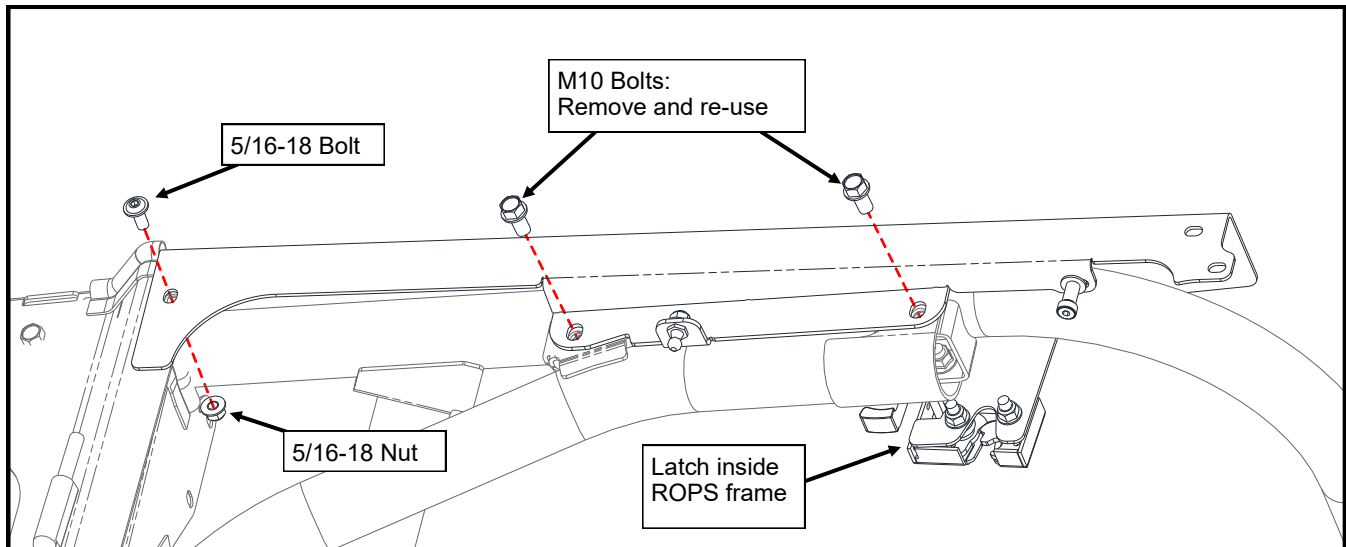

Figure 8.1: Rear Side Headers (Driver's side shown)
- 8.1 For both sides, remove and retain the two M10 bolts at the outside, upper rear of the side of the ROPS (see Figure 8.1). Do not remove or loosen the bolts on the inside of the ROPS.
- 8.2 Place the driver's side rear side header over the ROPS and secure it with the removed bolts (see Figure 8.1). Leave the bolts loose. Ensure the latch is on the inside of the frame.